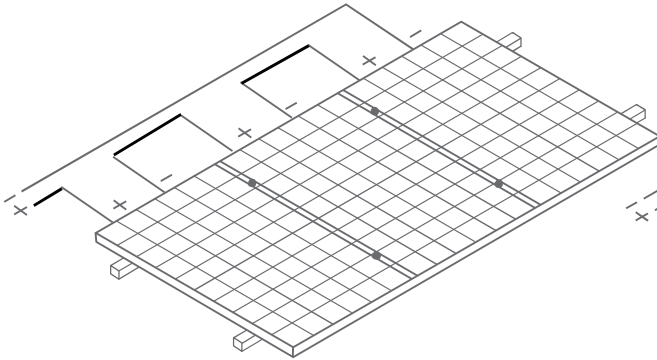

Figure 5 Connection in Series
- It is not allowed to use the Modules in different models in the same solar photovoltaic system. When the Modules are connected in series, the voltage of every string shall not be higher than the maximum voltage of the system (as shown in Figure 5). Reference equation of the maximum number of the Modules in serial connection: maximum system voltage of the module/ (1.25* open-circuit voltage).